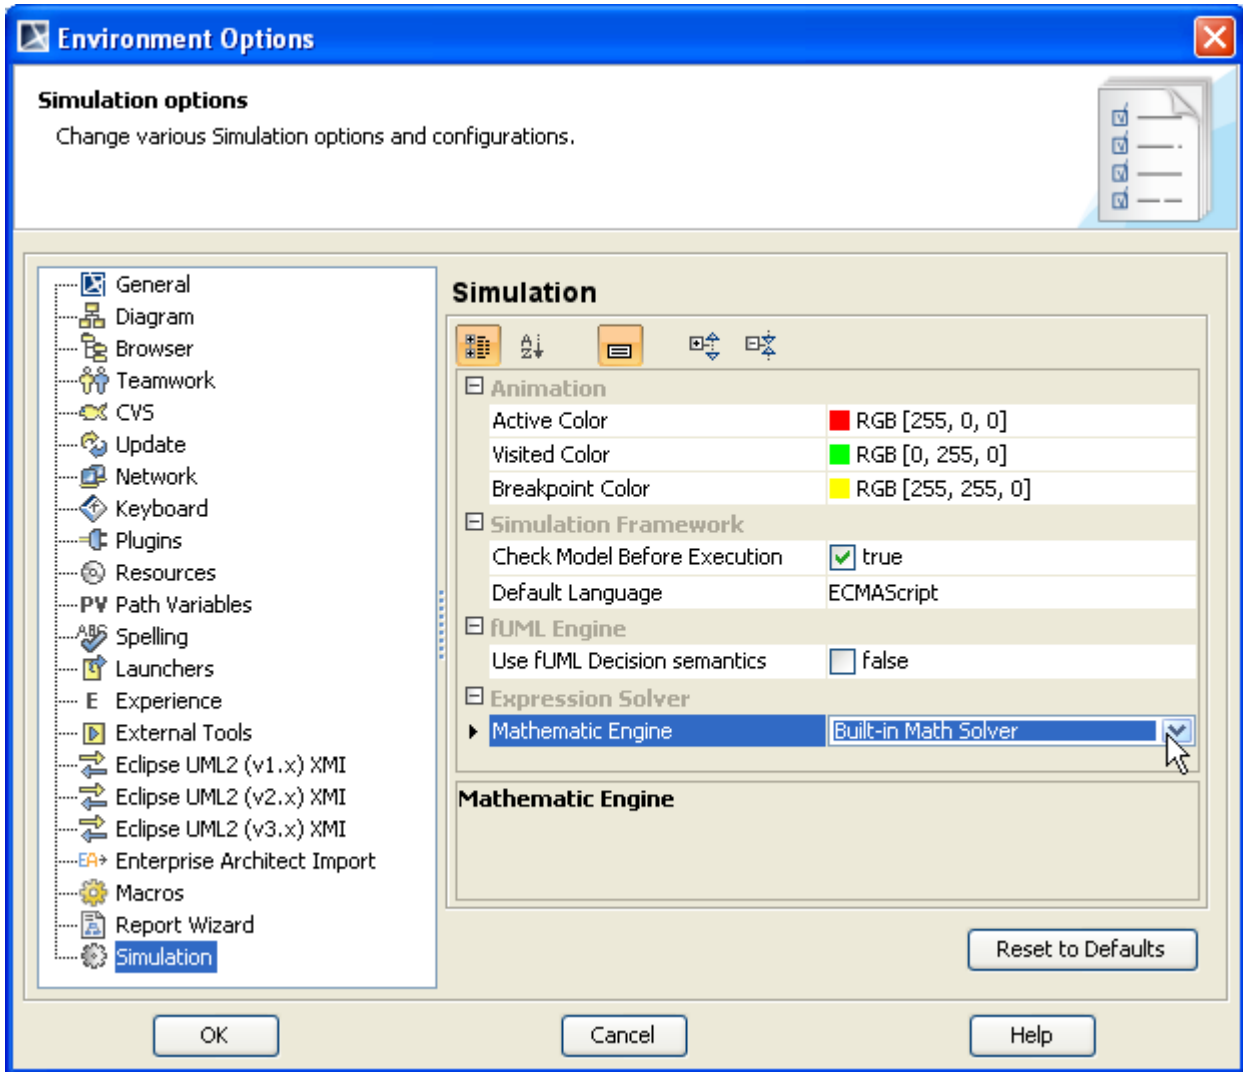

Figure 98 -- Selecting a Mathematical Engine in the Environment Options Dialog
2. Select **Simulation** in the left-hand side pane and select a mathematical engine from the **Mathematical Engine** field (Figure 98).